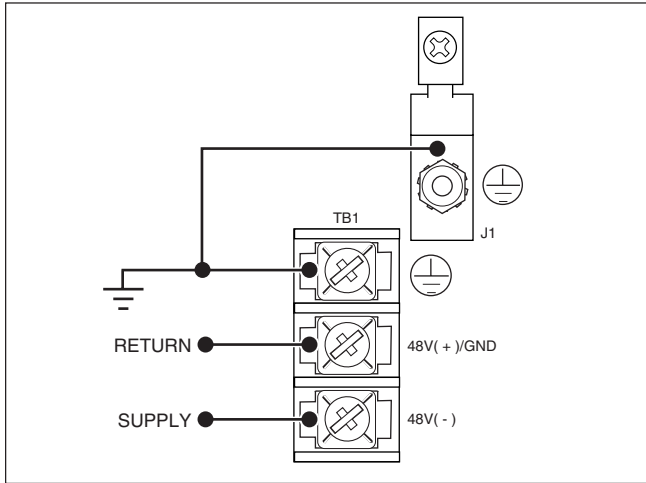

Figure 4. Local DC Power Connection
The NIU3 operates on local -48 VDC. The standalone housing has a power wire portal on the rear panel for termination at TB1, which has spade lug terminals for 48 V(-), 48 V(+)/GND, and Frame Ground (see **Figure 4**).
- Make wiring connections to TB1 as shown in Figure 4 or 5 as applicable.